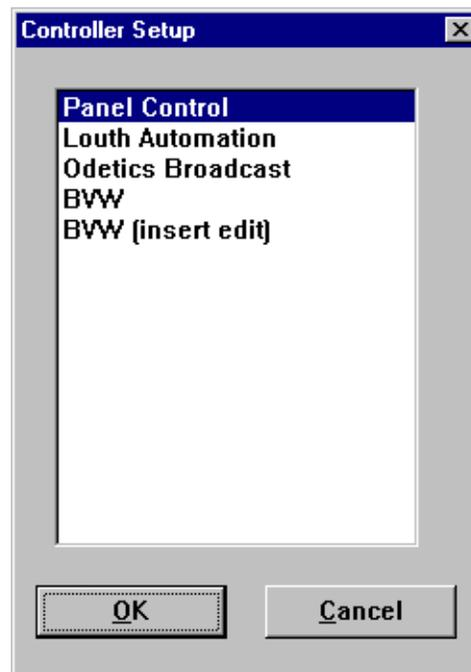

Figure 73. Controller Setup dialog box
2. Choose **Controller | Select** to open the Controller Setup dialog box (Figure 73).